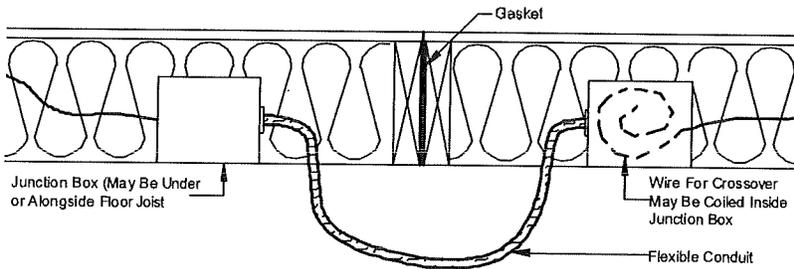

Figure 39. Under the rim joist electrical crossover connection with conduit
- Connect wires.** If wire is coiled inside one junction box, insert it into provided flexible conduit and pass it under the rim joists to the opposing box and make the connection as described above. If no coiled wire is provided, install provided ship-loose conduit with wire making connections in both boxes (**Figure 39**).